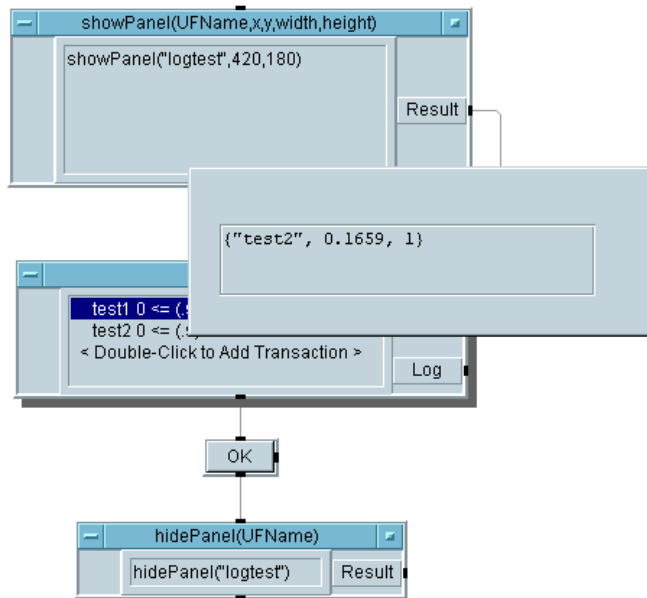

Figure 10-33. The Status Panel Program (running)
7. Run the program. It should look like Figure 10-33.